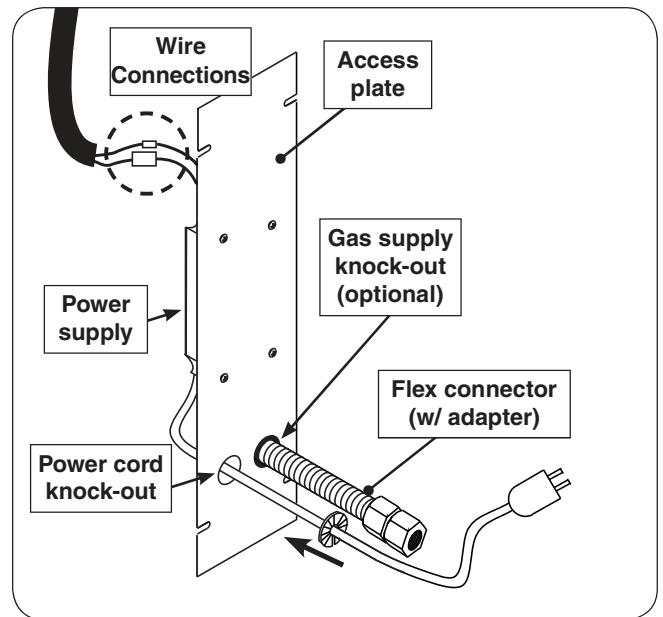

Fig. 15-1 Access plate view & install orientation
A power supply is pre-mounted to the access plate. For ease of installation, disconnect the power supply from the wire harness extension. Locate the wires coming from the inside of the post to the power supply and carefully disconnect (see Fig. 15-1 and 15-2).
4. Install the bushing onto the power cord and slide the bushing up against the access plate knock-out hole and snap into place. See Fig. 15-1.
2. Remove the plastic grommet (attached to the flex connector) and insert it into the newly created opening. Then route the flex connector through the opening. See Fig. 15-1 and 15-2.